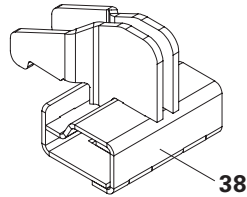

Fig. B1.07
Use the Adapter Connector MXH (38) for connecting Panel MX 30 to a Heated Formwork Panel. (Fig. B1.07)